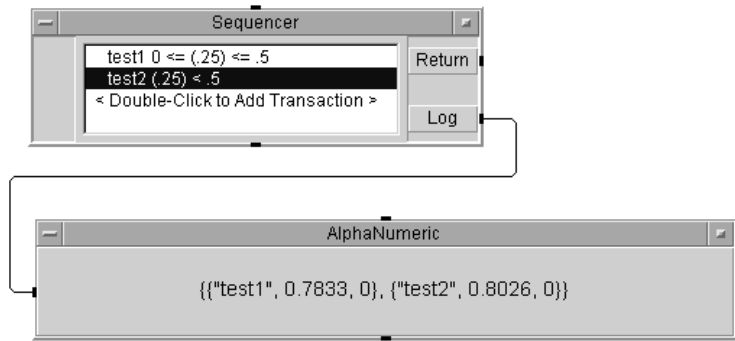

Figure 205 A Simple **Sequencer** Example
- 4 Run the program and note the two records of data from the two tests. Save the program as **seq1.vee**. The program should look like Figure 205.